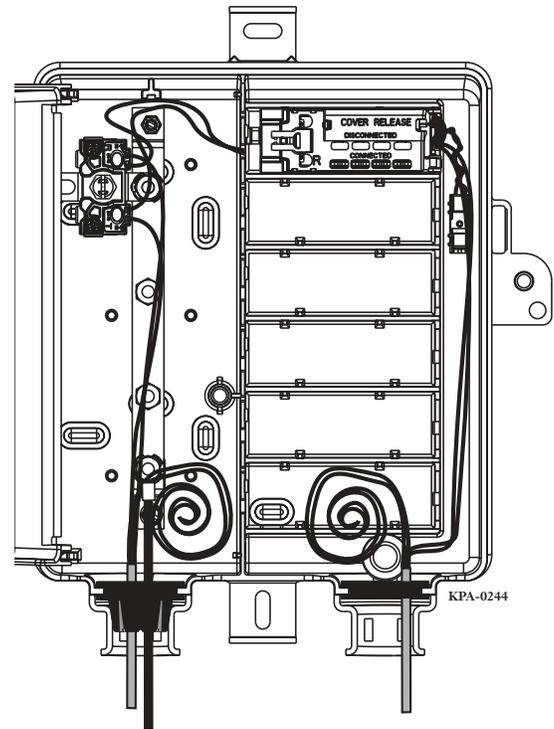

Figure 10
- Step 7** Dress the wires down the inside of the NID (Figure 10). Remount the line module cover on its hinges, if it was removed.